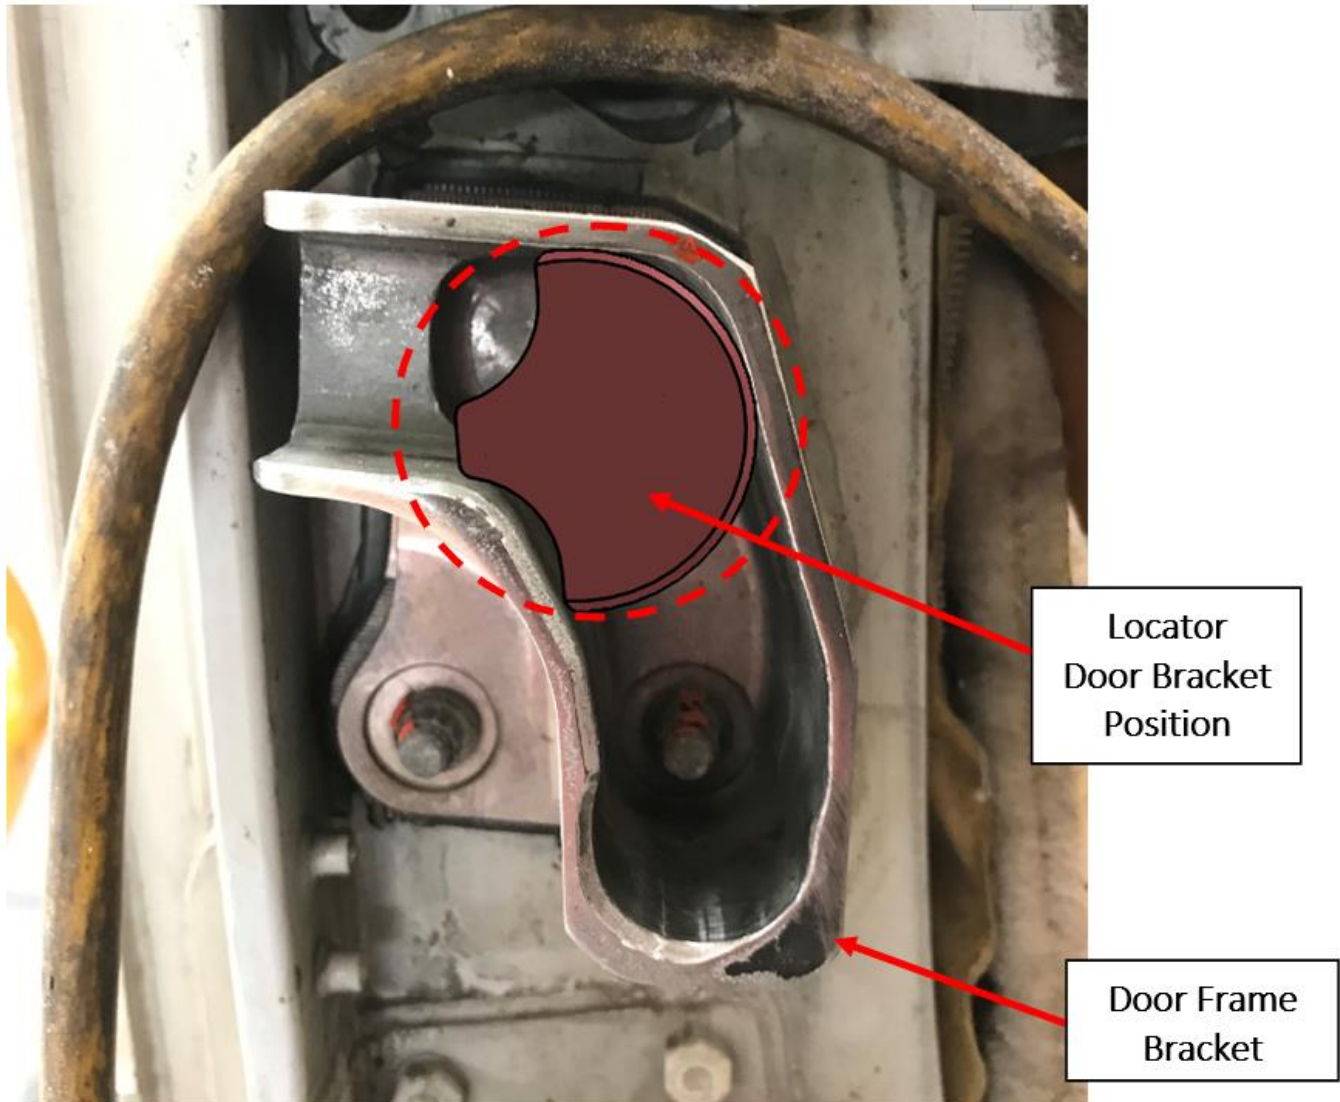

Figure 18 Bottom Door Bracket.
- 4.1.21 The bottom Sprung-Loaded Locator fits into the bottom Door Bracket area highlighted in figure 18.